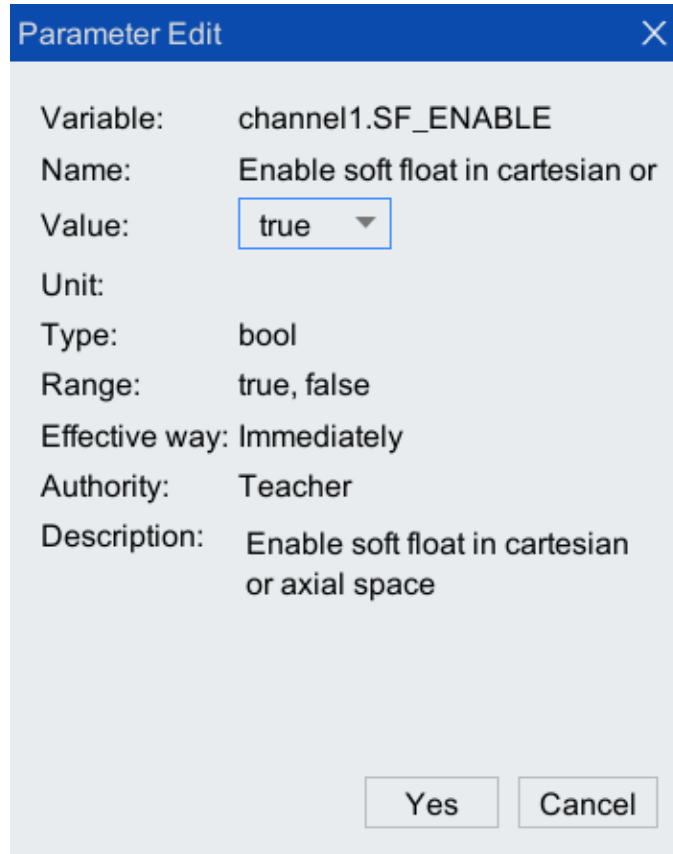

Figure 4-3 Enable Cartesian or axis space soft float interface
Step3. Click <Edit>, and the dialog box shown in Figure 4-3 will pop up. Select [Value] as true, and click <Yes>. The parameter description is shown in Table 4-1.